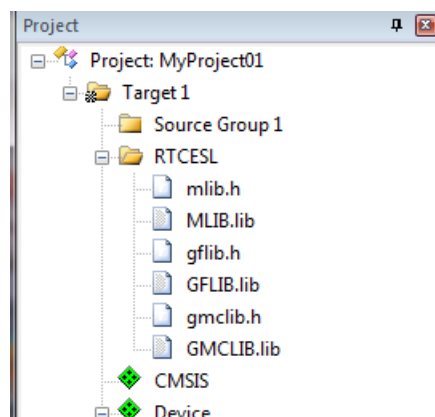

Figure 1-35. Project workspace
10. Now, all necessary files are in the project tree; see Figure 1-35. Click Close.